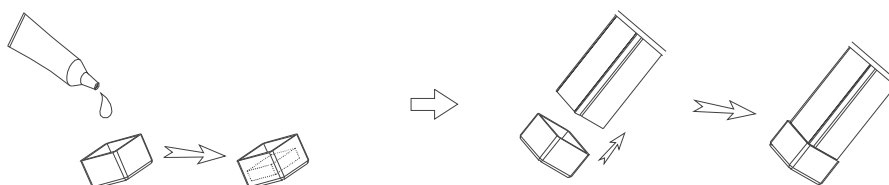

Figure 4
2. The plug will be filled with glue, and put the neon flex into the plug, the installation is complete, as shown in Figure 4:
4. Put the plug encased into the line, and repeat Figure 4 gluing steps, and then insert the neon flex into the plug, the installation is complete, as shown in Figure 7